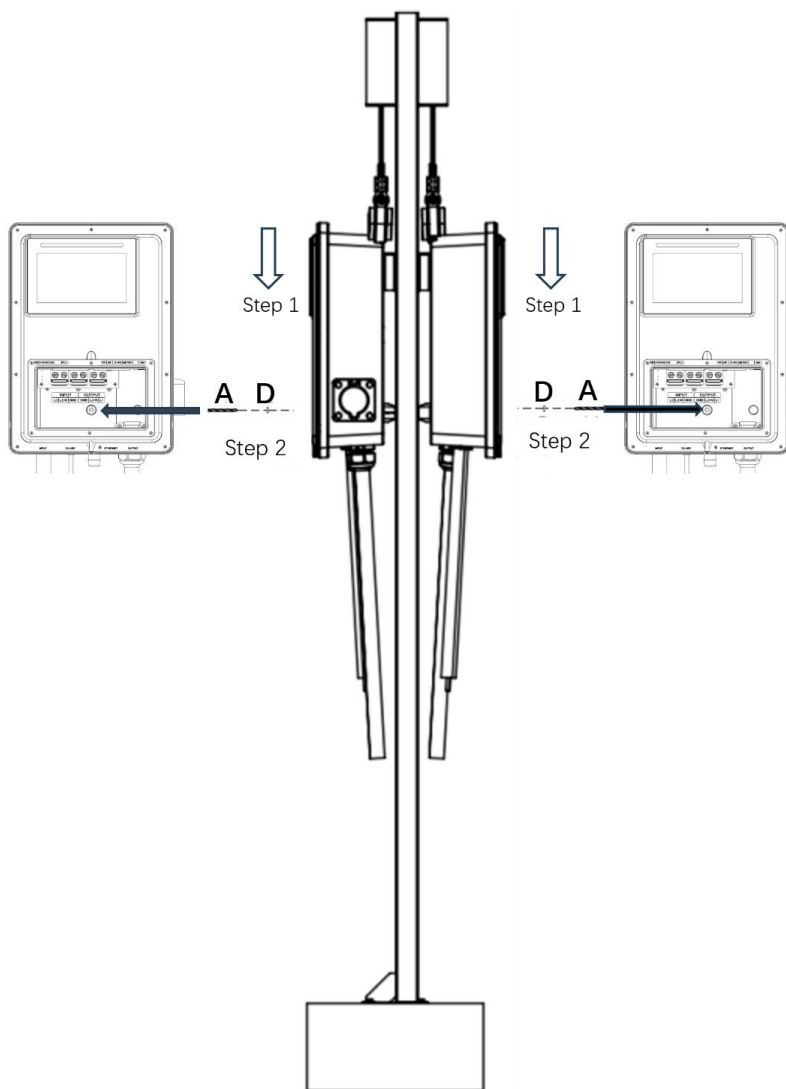

Figure 4.9 Fixing the Charger(s) on the Pole
- 4) After the positioning plate is fixed in a horizontally leveled position, install the charger on the positioning plate by sliding it down in the direction of the arrows depicted as **Step 1** on the sides of **Figure 4.9**, till the device hangs firmly.
- 5) Use the one remaining M4x12 screw (pole-mounting **Accessory C**) and the 1-piece waterproof gasket (pole-mounting **Accessory D**) to fix the lower part of the charger on the lower screw hole on the pole (**Step 2** as shown in **Figure 4.9**). The screw hole on the charger is found the back of wiring area, as marked by the thick arrows on **Figure 4.9**.